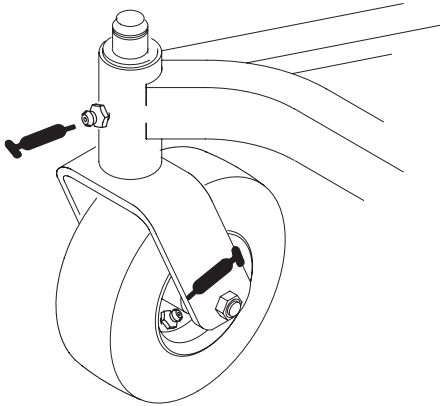

Figure 17
- castor spindle bushings (Fig. 17)
- castor wheel bearings (Fig. 17)